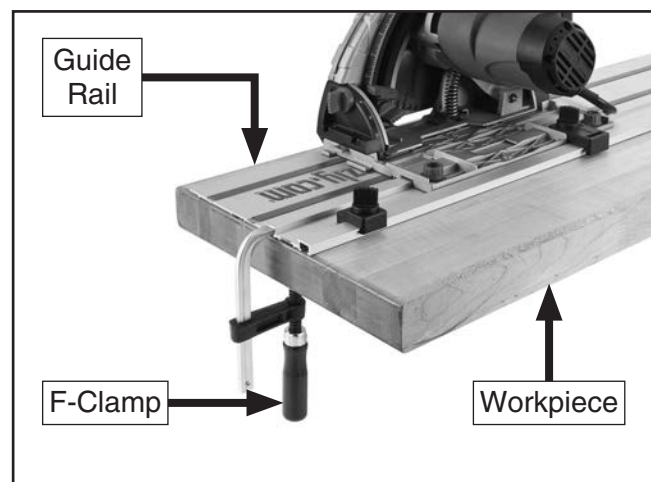

Figure 18. Example of guide rail clamped to workpiece.
2. When satisfied with position of guide rail, use F-clamps to secure rail to workpiece (see **Figure 18**).